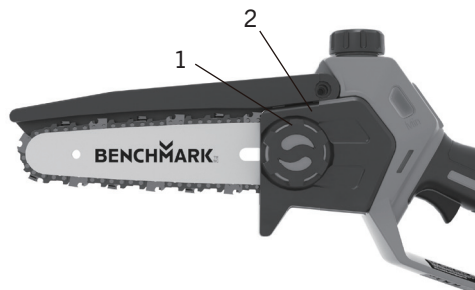

FIG. 7
6. Replace the sprocket cover (1) (Fig.7) over the sprocket (2) (Fig.7) and turn the sprocket cover knob clockwise to tighten.